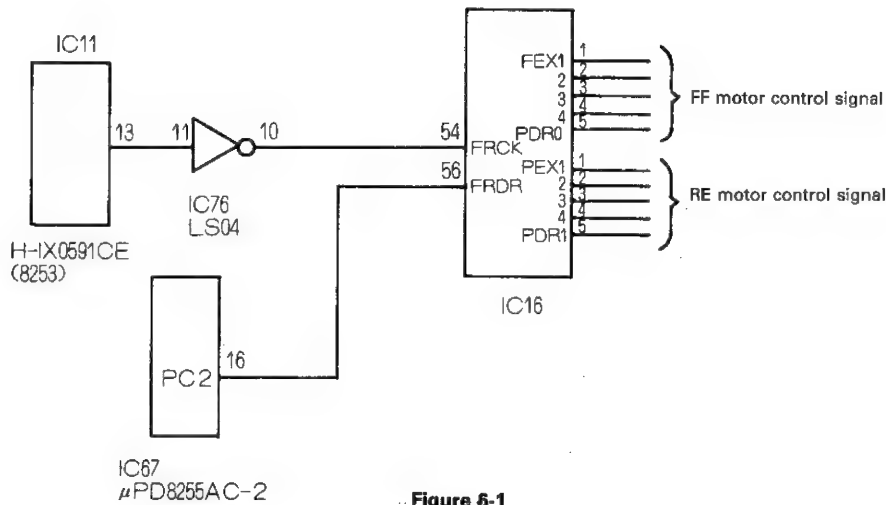

Figure 6-1
The stepping motors are controlled by the signal flows as shown in Figure 6-1.
The clock signal goes into pin 54 of IC16 shown in Figure 6-1, and the CPU controls the pulse interval for FEX1 to FEX4 and REX1 to REX4 and determines which is to be the output. At the same time, the output level of pin 56 (FRDR) is set for each mode (Forward, Rewind, Direct Page Selection, Copy). This pin 56 sends out the Low-level signal in the Copy mode and the High-level signal in the Forward, Rewind and Direct Page Selection modes. Thus the switching operation of R129, (3.3Ω, 20W) ④ which is connected to the common terminals (RE connector pin 5), FF connector pin 6) is done to make a power control selection of the stepping motor.